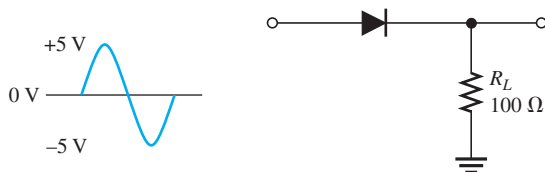

FIGURE 2-73
1. Sketch the waveforms for the load current and voltage for Figure 2-73. Show the peak values.